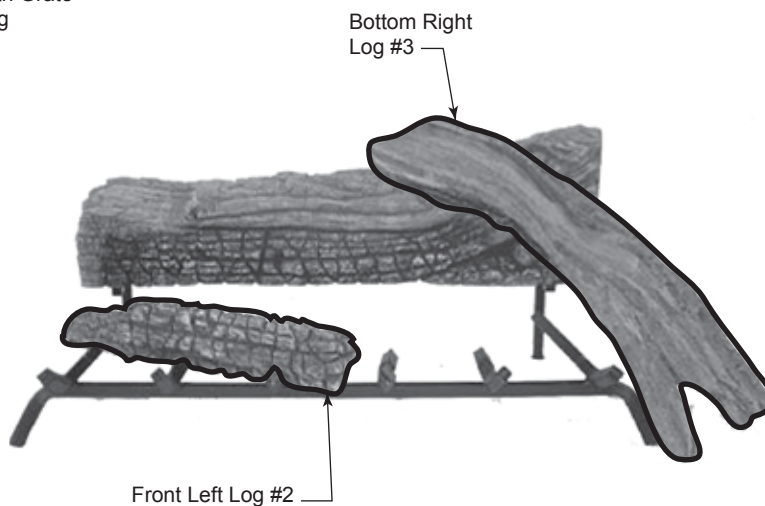

**Figure 69 -
3. Place Front Left Log #2 in front of back log on left arm of grate. Rest end of bottom left log between third and fourth prong of grate. *Figure 69*
4. Place end of Bottom Right Log #3 on cutout of back log #1. Rest other end of right bottom log to the outside of sixth grate prong. *Figure 69*